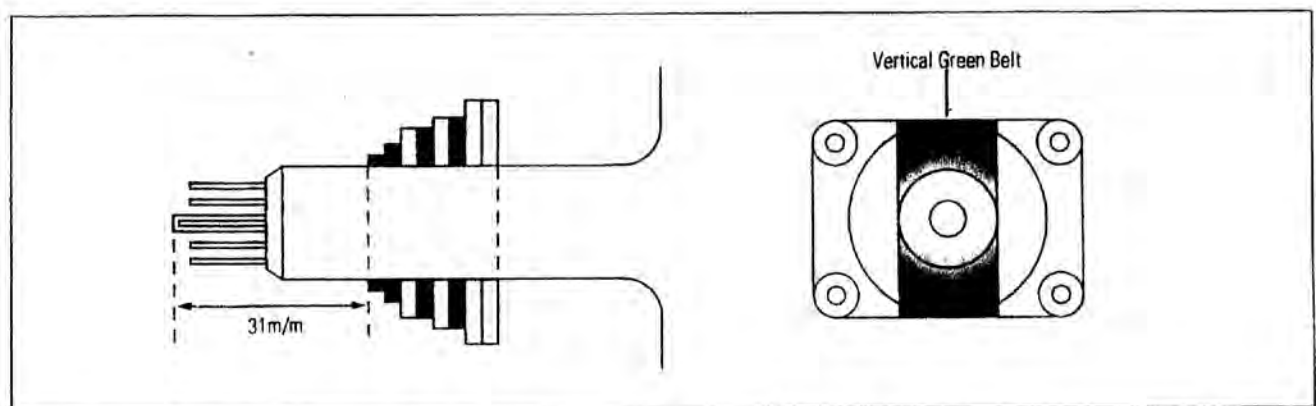

Fig. 4-2 Center Convergence Adjustment
7. Loosen the clamp screw holding the yoke. Slide the yoke backward or forward to provide vertical green belt. (Fig. 4-2).